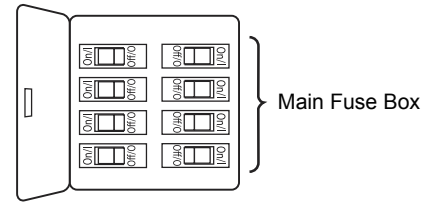

Figure 1
To avoid possible electrical shock, be sure electricity is turned off at the main fuse box before wiring. (Figure 1)
- 1. Screw in two threaded rods into the hanger bracket. (Figure 1)